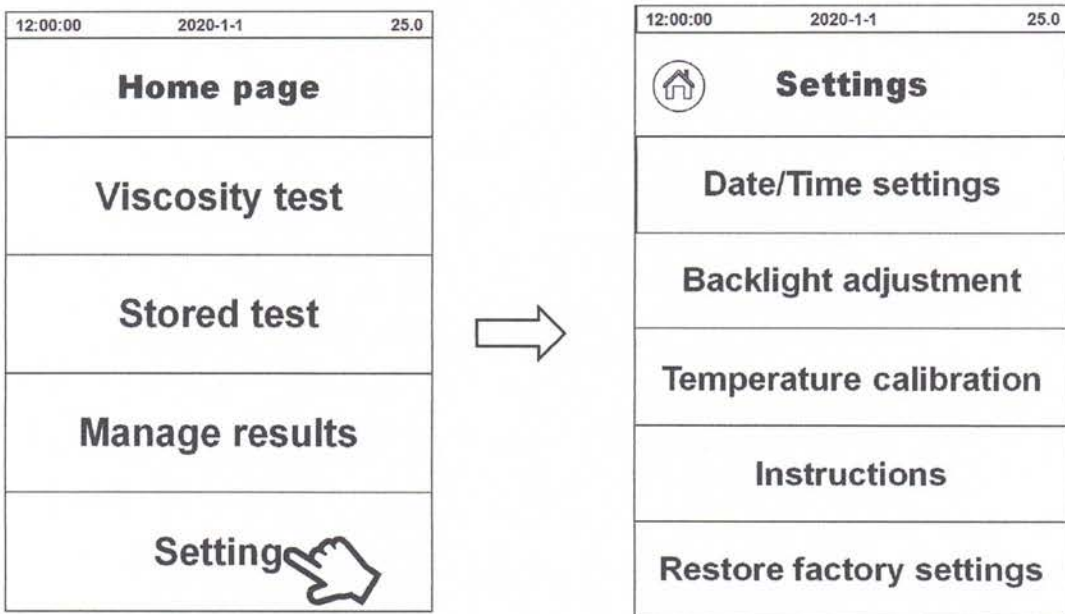

Fig. 27
6.5 、 Setting: The general settings of the instrument, time and date, and operation instructions, etc., see Fig. 27 for details.